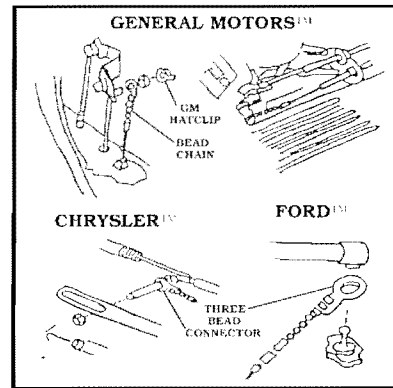

Figure 16
1. Most General Motors™ vehicles and many Chrysler™ vehicles can use the THREE BEAD CONNECTOR to attach the CRUISE CABLE. Figure 16